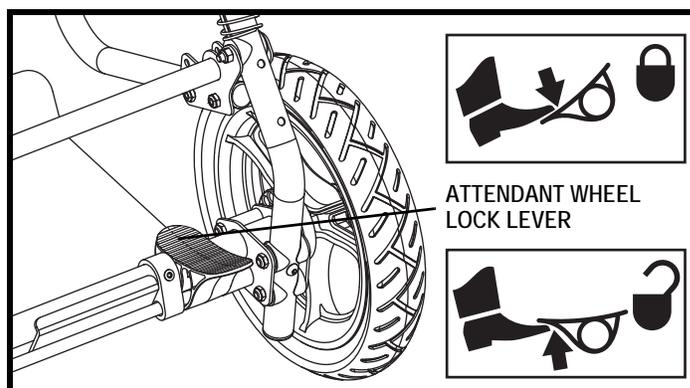

Figure 7. Kids FAST Attendant Wheel Lock
1. Locate the attendant wheel lock lever on the right of the rear axle. See figure 7.